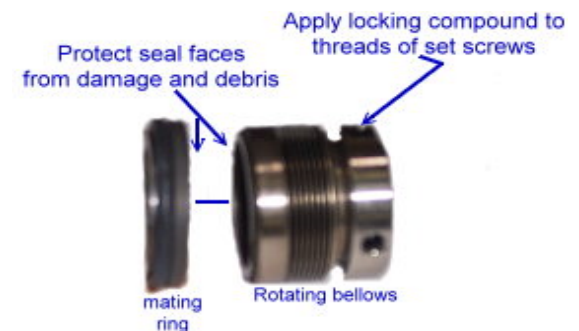

Figure 3
10. Tighten the set screws to approximately 45 In-lb (5.0 N-m) with the allen wrench provided and then remove the orange protective cap. Clean the mating ring (hard ring) and the primary ring (bronze ring) with the alcohol wipes (package number 1). Then clean the mating ring and the primary ring with the dry wipes (package number 2). The polished seal faces must be clean. Apply clean compressor oil (package number 3) to the mating ring, primary ring, lip seal and gasket prior to assembly. (See figure 3).